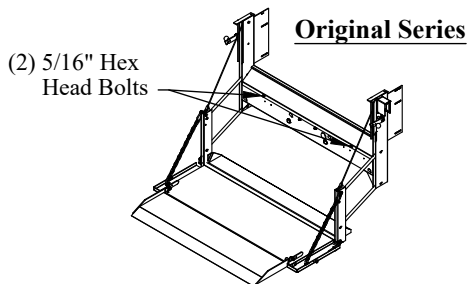

Figure 7: Box cover location.
1. **Remove** the box cover by removing the 5/16" hex head bolts (Figure 7).